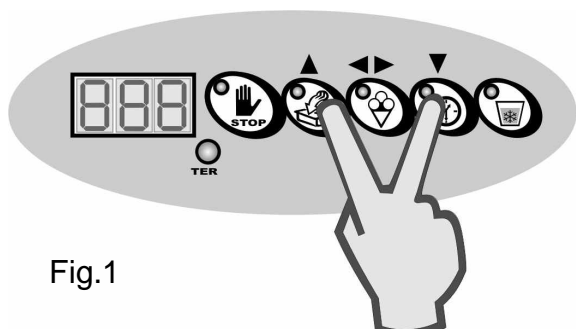
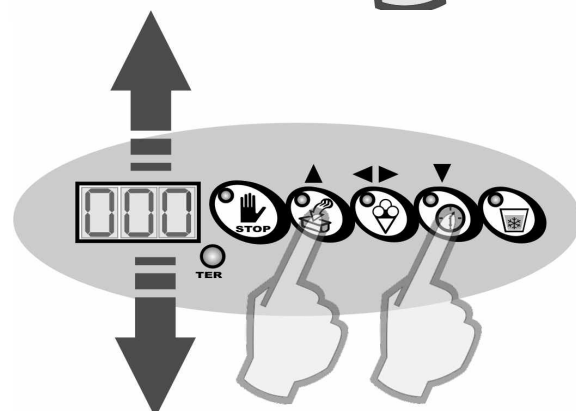

Fig.1
Fig.2
4. Press the “UP” and “DOWN” keys simultaneously until the password selection screen appears (fig. 1). Enter the password by increasing or decreasing the values via the UP and DOWN keys (FIG. 2), then press CONFIRM to validate the typed in password. If you do not know the password, contact the Frigomat assistance service.
6. If you do not wish to change the value of the selected step, press “UP” to directly access the following step. (fig. 2)